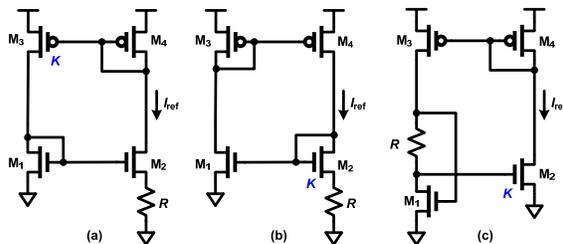

Figure 1
Problem 1: The beta-multiplier references (BMR) are used for constant- g_m biasing, where the goal is to stabilize the transconductance of a transistor. For example, in Fig. 1 (a), the g_m of M1 will be 'copied' to a current mirror device (not shown here).
- a) Derive expressions for I_{ref} , V_{GS1} and g_{m1} in Fig. 1 (a). Note that M3 is K times wider than M4 and M1 and M2 are the same size. Draw the schematic for a start-up circuit for this BMR.
- b) Will the circuit shown in Fig. 1 (b) work as a constant- g_m reference? Explain.
- c) Fig. 1 (c) shows a fix for the body effect problem in the bottom NMOS in the BMR. Derive an equation for I_{ref} in this circuit. Run a temperature sweep on I_{ref} and compare it with the results from the BMR seen in class. Explain your observations.